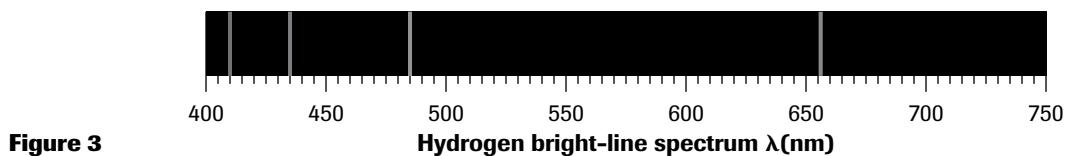

Figure 3
The bright-line or emission spectrum of hydrogen (**Figure 3**) has been known since the mid-1800s. The position or wavelength of each of the coloured lines in the visible region was precisely measured by the Swedish scientist, Anders Ångström in 1862. (A unit of length was named after Ångström, $1 \text{ \AA} = 0.1 \text{ nm}$, exactly.) The purpose of this activity is to use a computer simulation to demonstrate some of the main concepts of the Bohr theory and to relate these to the hydrogen emission spectrum.
- Using **Figure 3**, estimate the wavelength of each of the four lines in the visible region of the hydrogen spectrum. These visible lines belong to the group of lines known as the Balmer series.
- (e) How do your answers from (a) using **Figure 3** compare with your answers to (d) using the computer simulation? Is this surprising? Explain briefly.